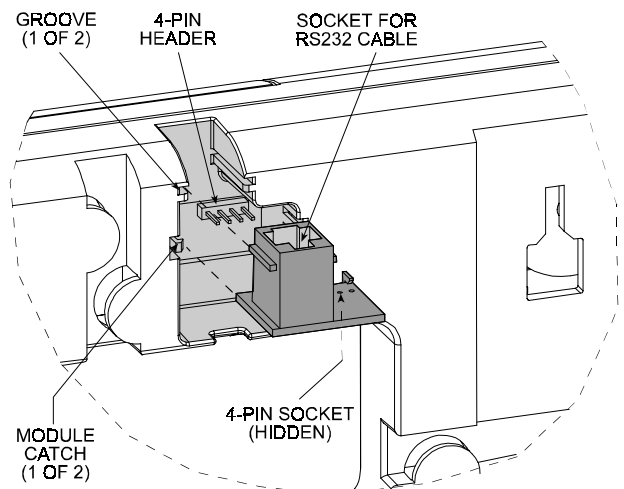

Figure 26. Inserting the RS232 Module
C. Align the RS232 module with the grooves and the module catches as shown in Figure 26.